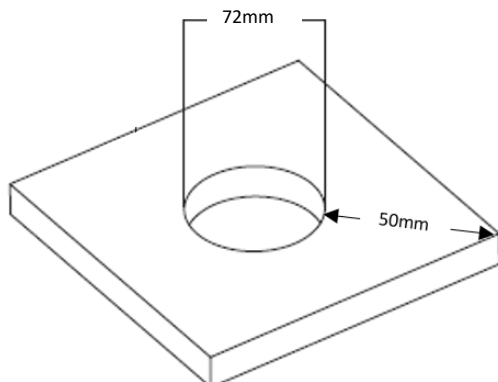

Fig 1
- Cut a suitable hole in the ceiling as per the cut-out details in Fig 1 ensuring that it does not infringe with electrical cables, water/gas pipes or ceiling joists